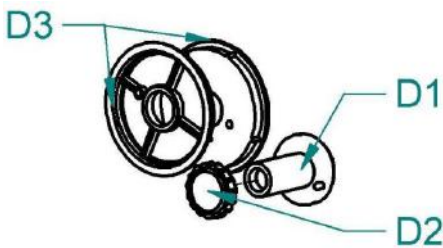

Figure 5: Spool fixing sleeve
2. Place the wire spool on the spool clamping reel **D1** (according to figure 5) and secure it with the mounting nut **D2**. When using a B 300 spool type (15 or 18 kg) use a suitable adapter **D3**, e.g. 50 00 001099). The hole in the back of the adapter must match the pin on the wire spool clamping sleeve!